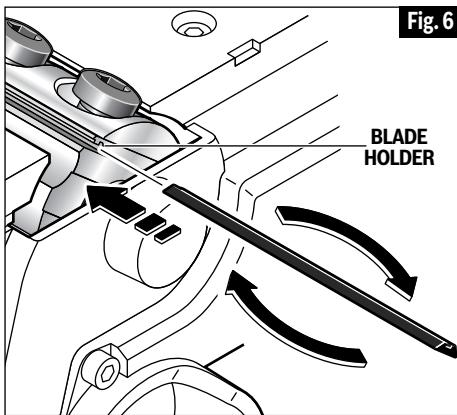

Fig. 6
Mini TC planer blades have two cutting edges, and may be reversed when one of the cutting edges becomes dull or chipped. (Fig. 6) Before any work on the machine itself, pull the power plug.
1. Align the groove on top of the blade with the ridge of the blade holder and carefully slide the blade onto the blade holder, as shown in Figure 6.